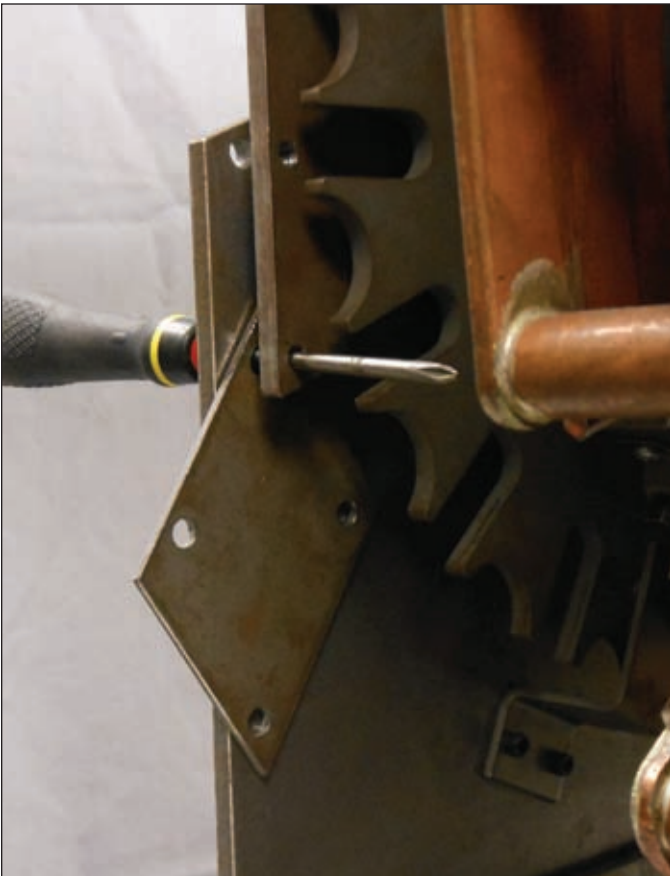

Figure 6.
5. The purpose of placing the screwdriver through the hardware hole is to keep the brake shim from dropping out and down in the tank. See Figure 6.